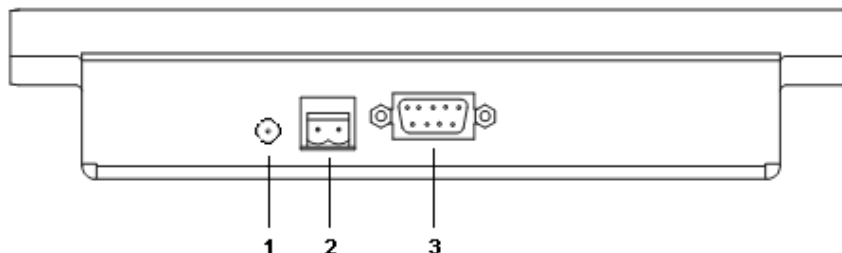

Figure 3 The Autosampler connector panel
2. Locate the connectors and switches on the underside of the Autosampler as shown in Figure 3.